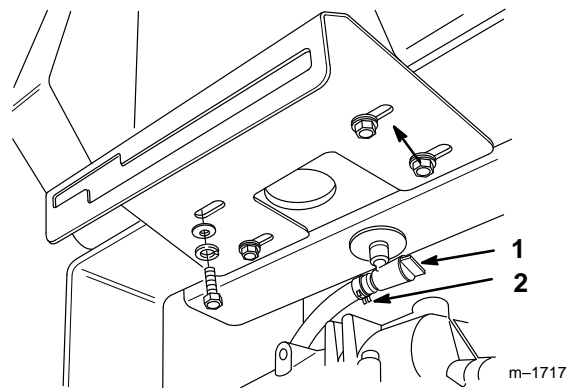

Figure 35
2. Close fuel shut-off valve at fuel tank (Fig. 35).
3. Squeeze the ends of the hose clamp together and slide it up the fuel line away from valve (Fig. 35).
4. Pull the fuel line off the valve (Fig. 35). Open fuel shut-off valve and allow gasoline to drain into a gas can or drain pan.
6. Open fuel shut-off valve at fuel tank (Fig. 35).